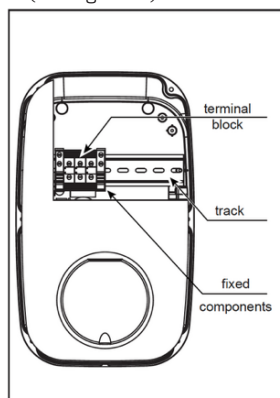

Fig. 11
- Caution: after opening, visually inspect the interior. If the wiring terminal block or an attached component has slipped out of the track, reposition it in the track (see figure 11).